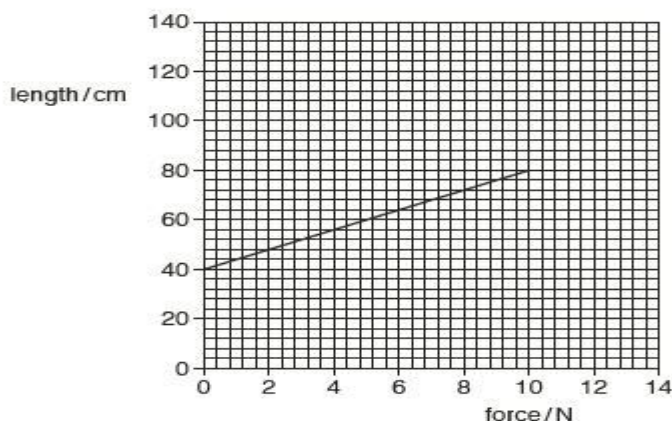

Fig. 1.2
- (c) Fig. 1.2 shows a graph of the length of the spring plotted against the force on the spring, for forces between 0 and 10 N.
On Fig. 1.2, continue the line to suggest how the length changes when the force is greater than 10 N. [1]